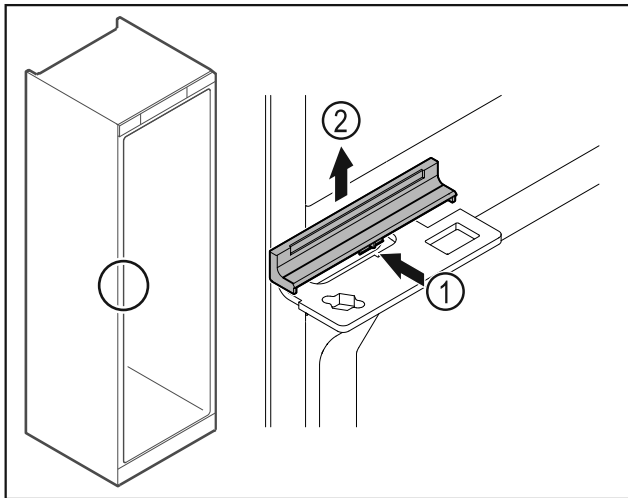

Fig. 47
- ▶ Gently press the middle of the cover Fig. 47 (1) and lift it off Fig. 47 (2).